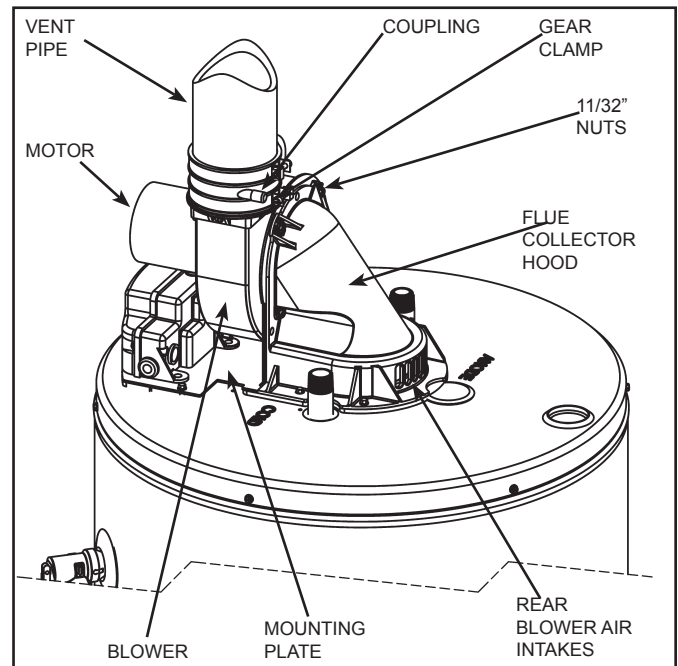

Figure 32. DIP Tube (Inlet Piping)
5. Remove and retain the (4) 11/32" nuts located on the back of the blower with the nut-driver. See **Figure 32**.
10. With all parts cleaned and the blower wheel turning freely, reinstall the blower to the mounting plate aligning the (4) studs and pushing tight against the mounting plate.
11. Reinstall the (4) 11/32" nuts and tighten securely. All (4) nuts must be in place and secure to safely operate the blower.